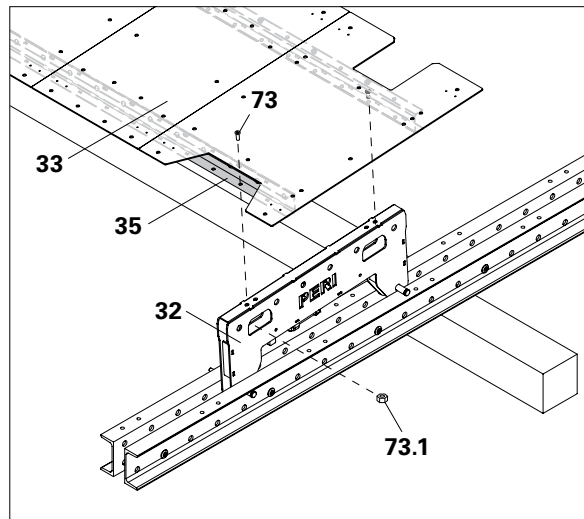

Fig. C1.13
3. Fix Platform LPS (33) to the Platform Cantilever Beam (32) by inserting Bolts ISO 7380 M10x25 (73) through the Platform Cantilever Beam and securing with Nuts M10 (73.1). Position Nut (73.1) through the working opening in the Platform Cantilever Beam. (Fig. C1.13)